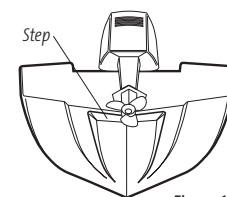

Figure 16
- On boats with stepped hulls, it may be possible to mount the transducer on the step. Do not mount the transducer on the transom behind a step to avoid popping the transducer out of the water at higher speeds; the transducer must remain in the water for the control head to maintain the sonar signal (Figure 16).